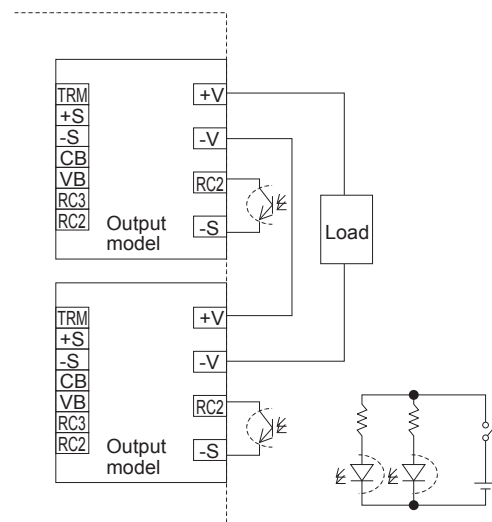

Fig.2.2 Example of remote control circuit in series operation
- You should be careful of electric potential in series when you wire the remote control circuit,since it is not insulated from the output. Example of a circuit in series is shown in Fig.2.2.